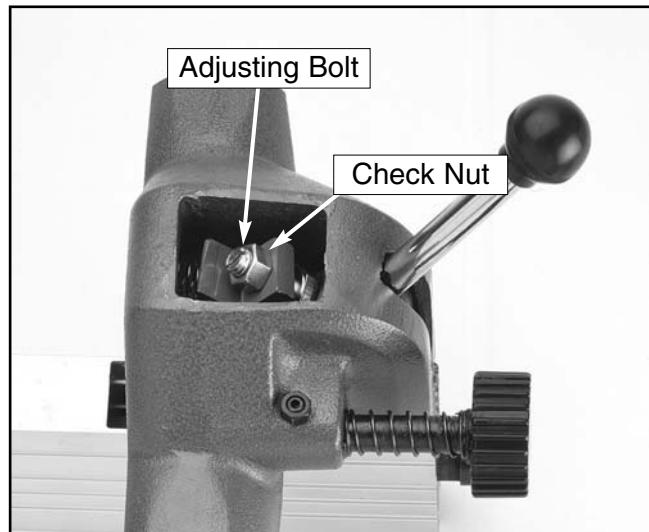

Figure 36B. Adjusting clamp mechanism.
- First, make sure the front clamp is engaging the front rail with the lock handle at one-half of its throw. If the front clamp requires adjustment, loosen the check nut shown in **Figure 36B**. Turn the adjusting bolt clockwise if the front clamp is too far from the rail, counter-clockwise if it is too close.